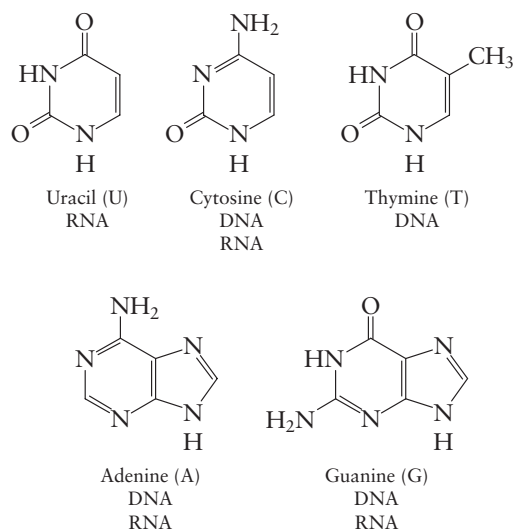

FIGURE 22.34
2. A *nitrogen-containing organic base* of the type shown in Fig. 22.34